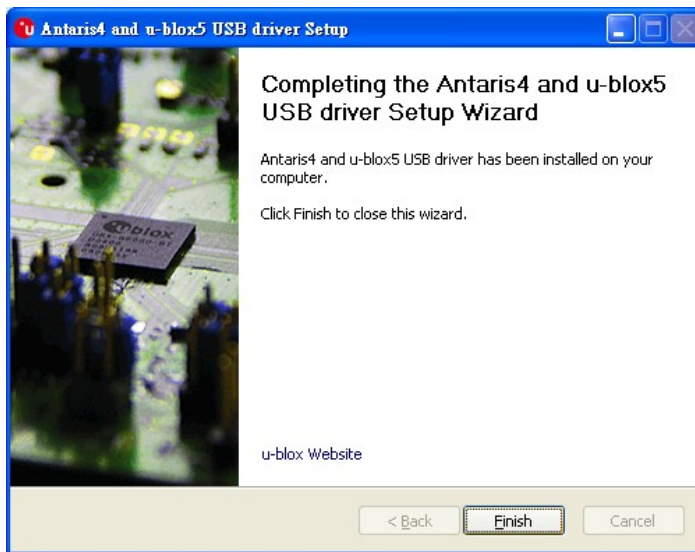

Figure 5-34: GPS Driver Installation Complete
**Step 10:** When the driver installation is complete, the screen in **Figure 5-34** appears.